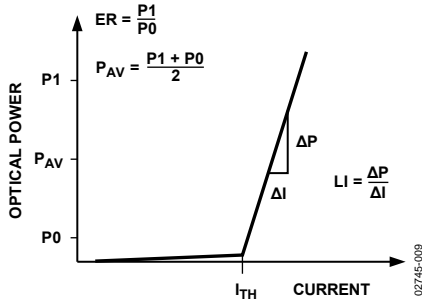

Figure 9. Laser Transfer Function
Laser diodes have current-in to light-out transfer functions, as shown in Figure 9. Two key characteristics of this transfer function are the threshold current, I_{TH} , and the slope in the linear region beyond the threshold current, referred to as slope efficiency (LI).